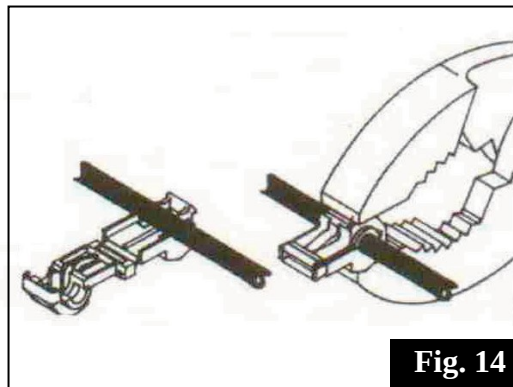

Fig. 14
22. Locate the 16 pin connector on the amplifier under the steering column. Find the green/brown stripe wire and the gray/brown strip wire in this connector and install one of the self-stripping t-tap connectors on to each wire. Lay the wire in the open channel, fold the connector body over and squeeze with a pair of pliers until connector snaps shut. Fig. 14